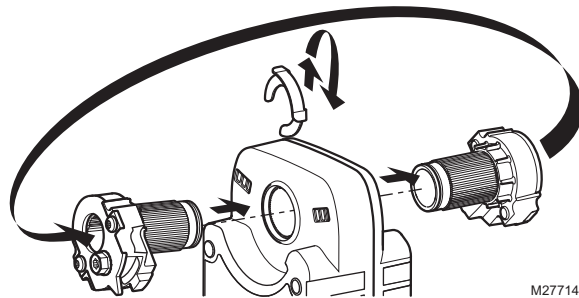

Fig. 29. Change actuator to normally open.
- (1) Change setting of reverse/direct-acting switch, or
- (2) To change spring return direction: remove, flip over, and replace actuator on bracket.
- d. Move the Self-Centering Shaft Adaptor to the opposite side of the actuator, as displayed in Fig. 29.